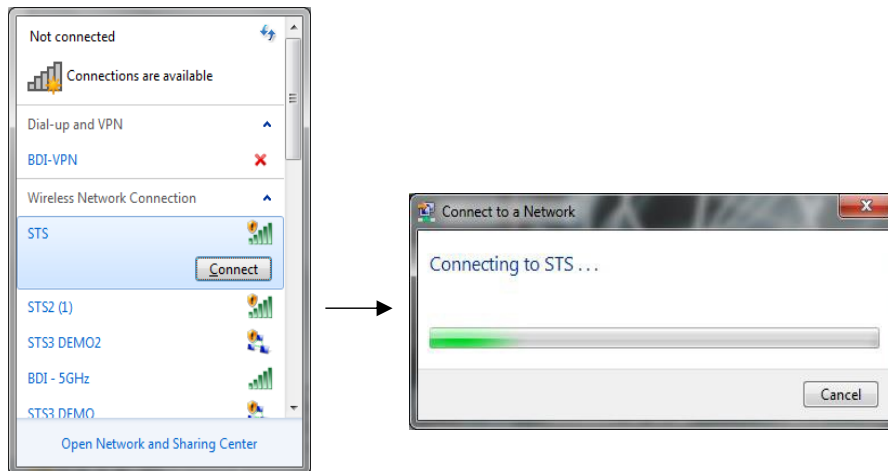

Figure 11: Establishing a Wireless Connection
2. If you are using the wireless communication, establish a connection to the "STS" network as shown in Figure 11.